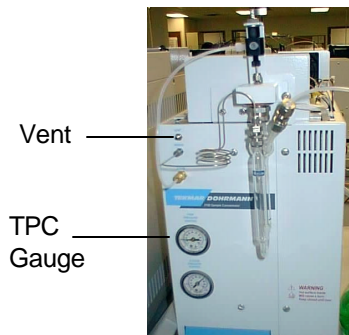

Figure 3-2: Concentrator Vent
3. Attach a flow meter to the vent fitting to measure the flow rate of the sample gas (Figure 3.2).